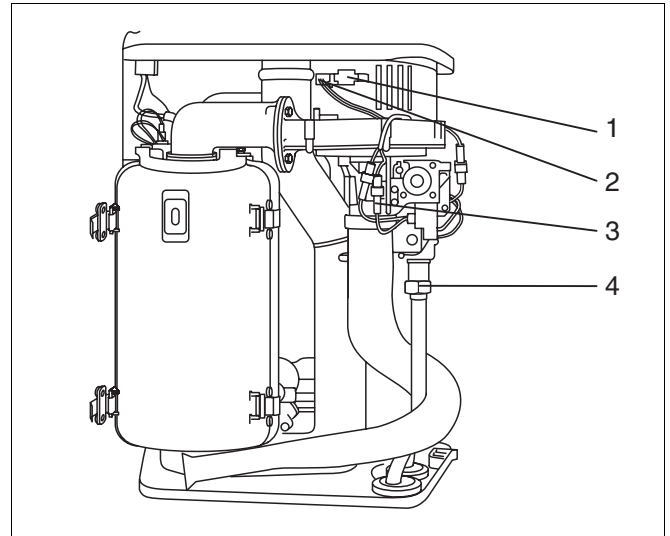

Fig. 58 Replacing the fan on the 600 Series: loosen plug and union nut
- Disconnect the fan, using the plug and socket from the power supply (fig. 58, item 1), loosen the UBA control line at the fan (fig. 58, item 2) and the gas burner fitting (fig. 58, item 3).
- Loosen the union nut (fig. 58, item 4) on the gas burner fitting.